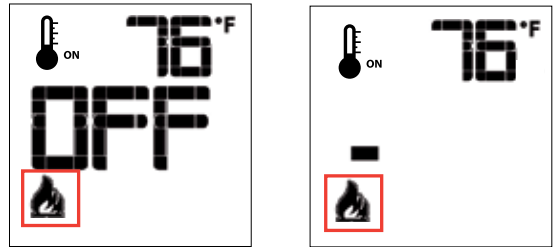

Fig. 7
The proflame has six (6) flame levels. With the system on, and the flame level at the maximum in the appliance, pressing the Down Arrow Key once will reduce the flame height by one step until the flame is turned off. The Up Arrow Key will increase the flame height each time it is pressed. If the Up Arrow Key is pressed while the system is on but the flame is off, the flame will come on in the high position. (Fig. 7 & 8) A single "beep" will confirm reception of the command.